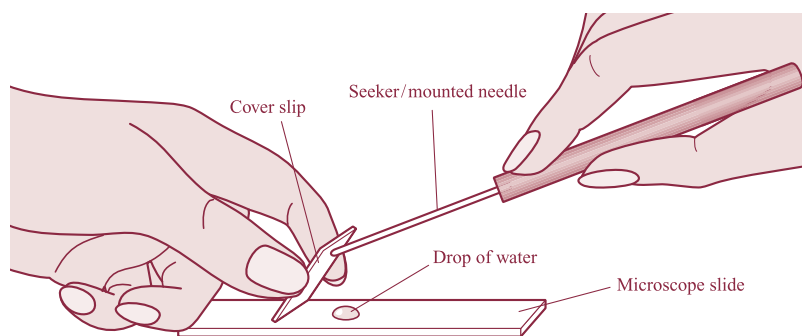

Fig. 1
6. Apply a cover slip to this preparation as in Fig. 1.